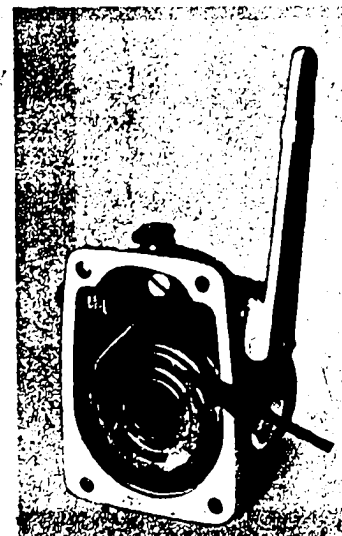

Fig. 65 Position of zero marking on manual injection timer
b) When mounting a manual injection timer, insert key in camshaft. Zero marks in coarse-thread sleeve, coarse-thread nut, and carrier must coincide (Fig. 65). When in this position, slide timer on camshaft cone and tighten coarse-thread sleeve, then screw on housing of the injection-timing device.